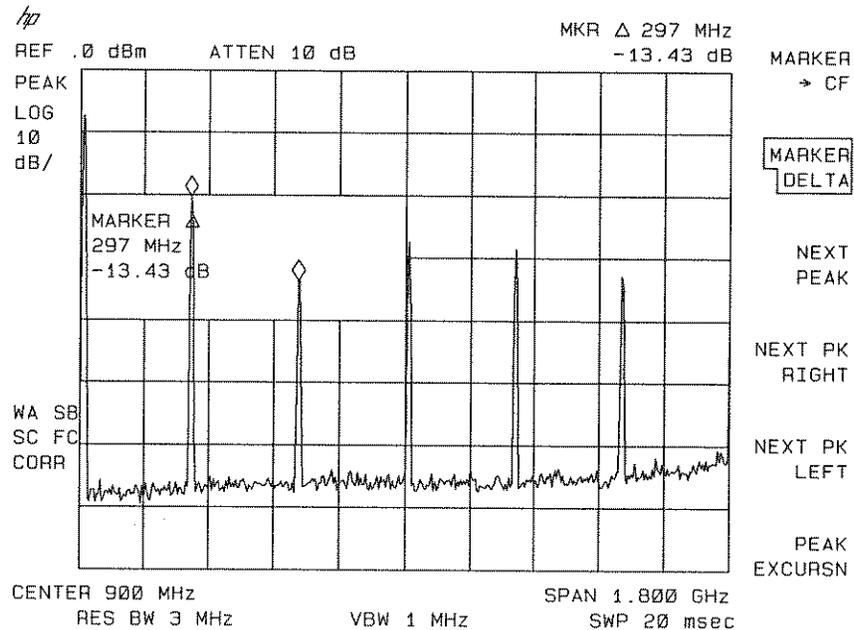

Figure 6-13. Using the Marker Delta Function
4. The amplitude and frequency difference between the markers is displayed in the active function block and in the upper-right corner of the screen. See Figure 6-13.